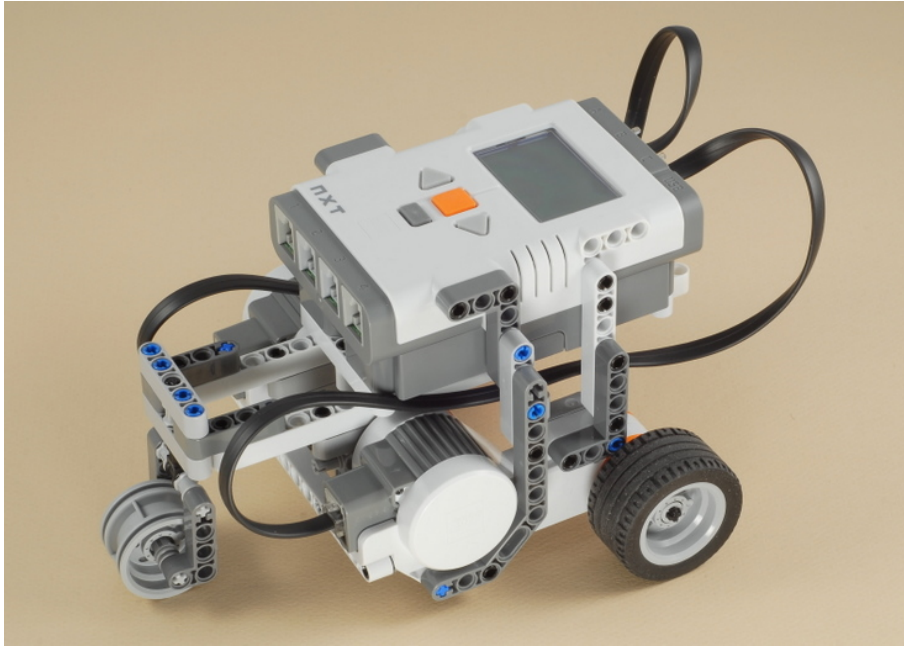

Figure 1.1. The Castor Bot, from nxtprograms.com
- The Castor Bot (<http://tinyurl.com/castorbot2>), from the site <http://nxtprograms.com>. This robot is shown in Figure 1.1 below.